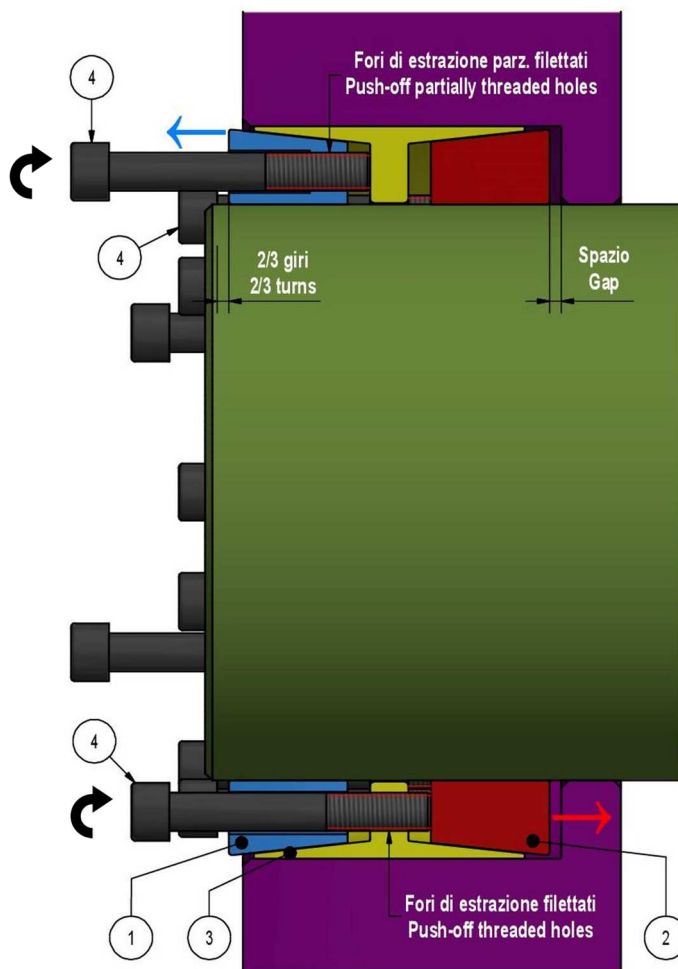

Fig. 2. Disengagement of thrust rings and positioning of
2. **For ease of installation, thrust rings shall be disengaged** (fig. 2). Loosen all screws by two/three turns; then transfer and hand tighten at least two screws into the push-off threaded holes in the front thrust ring and at least two screws into the push-off threaded holes in the outer ring, accessible via corresponding clearance holes in the front thrust ring.
3. Insert Locking Assembly into the hub bore and make it slide onto the shaft, making sure that connected components are positioned as required. **Thrust rings and outer ring shall be completely supported by shaft respectively hub bore** (fig. 2). At this point, relocate the screws used to disengage the thrust rings.
Installation into hubs with shoulder requires a few mm's gap between rear thrust ring and shoulder (fig. 2).